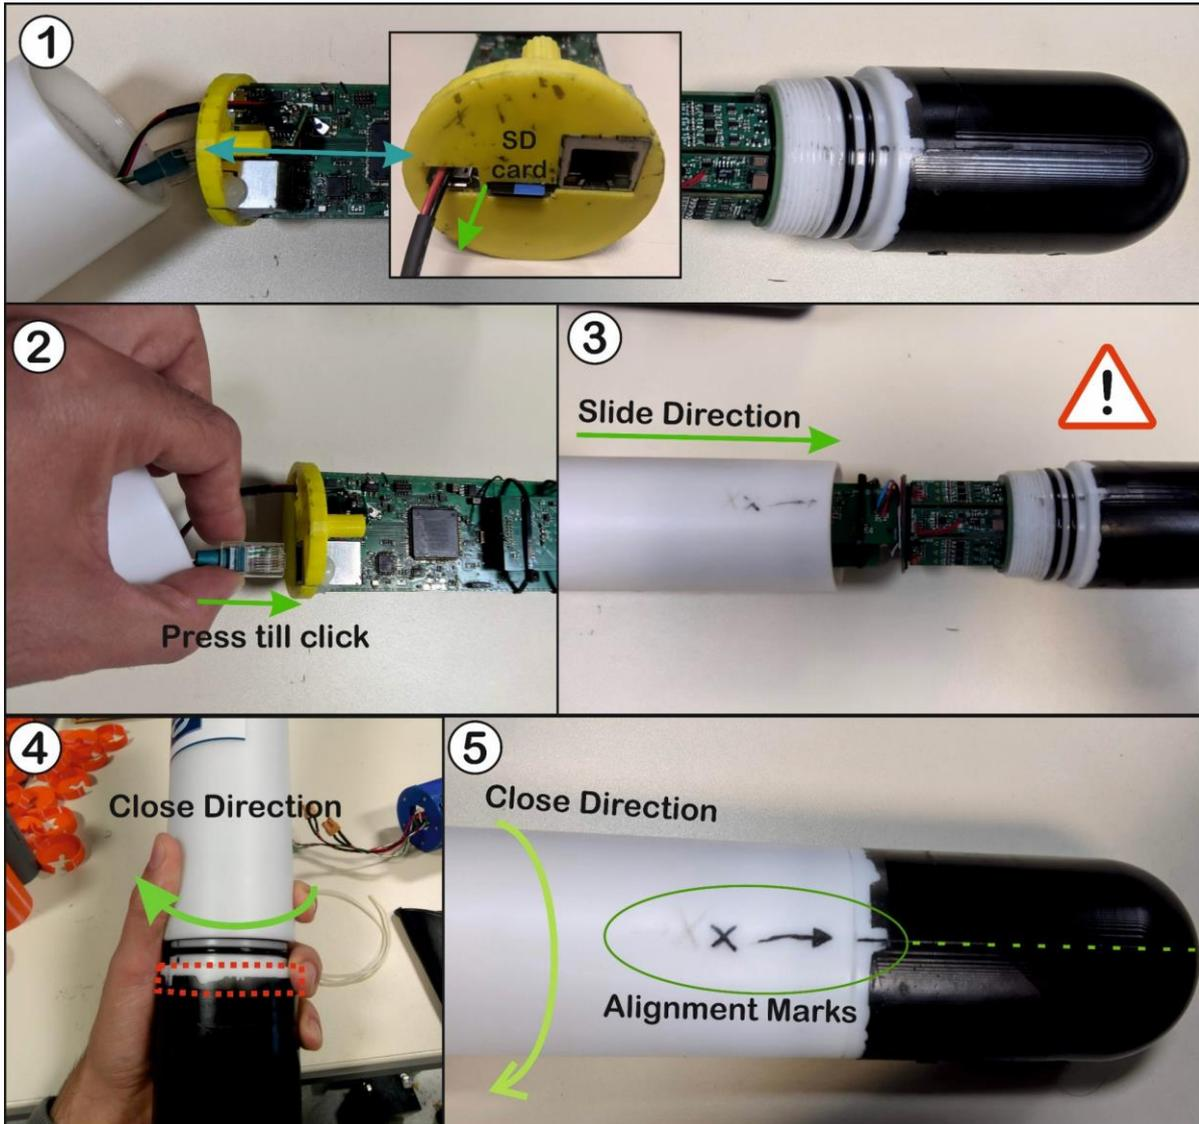

Figure 20 - DAVS SD card slots (1), Ethernet cable connection (2), closing DAVS procedure (3) and (4) and alignment of cylinder and nose (5)
All the electronics are attached to the nose, so remove it from cylinder with care. To remove a card, just pull it gently from the plastic yellow support (Figure 20 image 1). After removing the SD card immediately close the DAVS, first connecting the Ethernet cable (2) then sliding the white cylinder with care (3). Screw it in the direction marked in (4) till the cylinder and nose marks align (5). Please note that when plugging the Ethernet cable, the end cap (and battery pack, if attached) will be physically connected to the nose, so screw the cylinder with care and never force it if you find any resistance. While screwing, check if the Ethernet wires are not being twisted and rotate the end cap to prevent twisting, if necessary. Check if something is stuck and try to clear it before continuing to screw the cylinder. Rotate it till the alignment marks from cylinder and nose overlap.